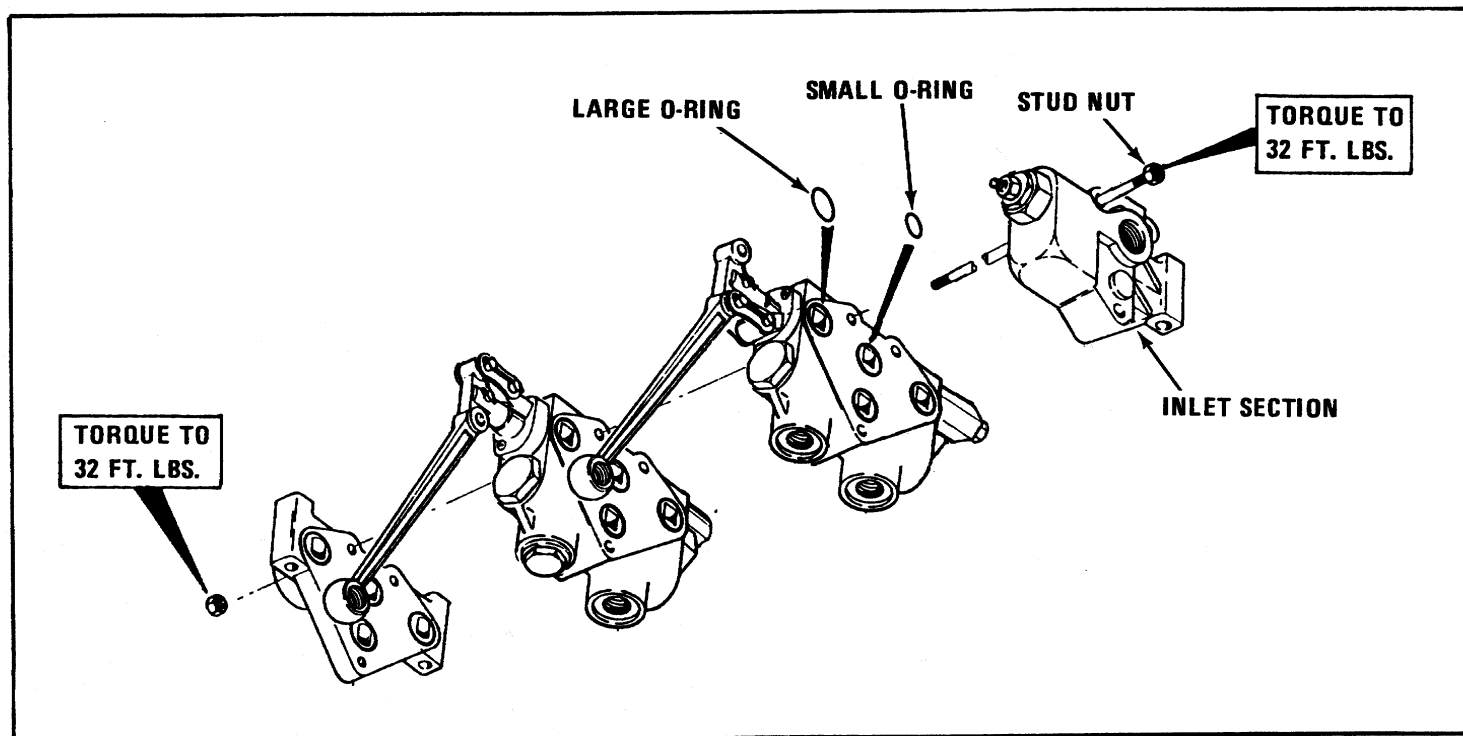

Figure 22D.
2. Remove three (3) assembly stud nuts (see Figure 22D) from the inlet section using a 9/16" thin wall socket.
3. Remove valve sections by sliding from assembly studs, see Figure 22D.
7. Reassemble three (3) stud nuts on stud assembly. Torque nuts evenly to 32 ft./lbs.